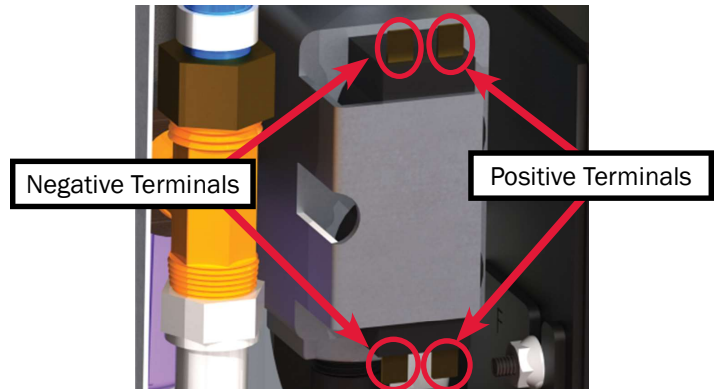

Figure 62
5. If the Fenwal card is sending voltage to the dual stage gas valve, check for voltage at the dual stage propane valve as denoted by Figure 62.
- Reconnect wires # 40 and #41 to the dual stage gas valve. Wire #41 will terminate at the top positive connection, and wire #40 will terminate at the bottom positive connection. Connect the ground wires in a similar fashion. Reference Figure 62.